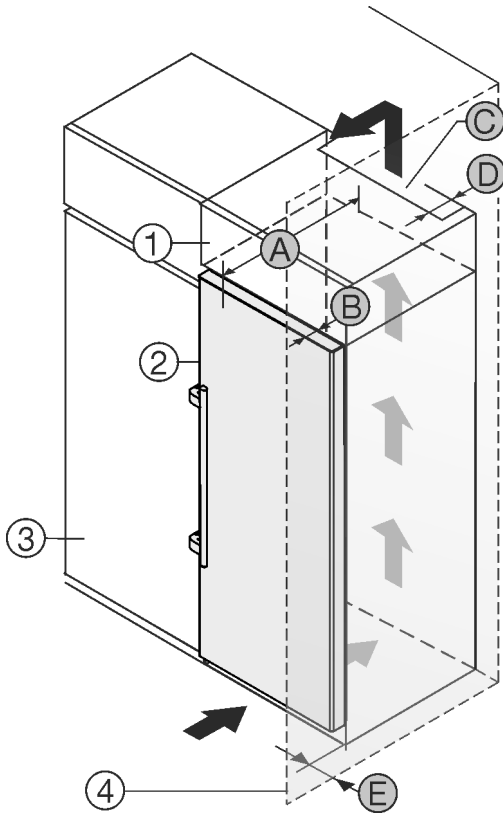

Fig. 2
- (1) Top cabinet \*
- (2) Appliance \*
- (3) Kitchen cabinet \*
- (4) Wall \*
- (A) Appliance depth \*
- (B) Door depth \*
- (C) Ventilation cross-section \*
- (D) Distance to the rear of the appliance \*
- (E) Distance to the side of the appliance \*
You can place the appliance directly beside the kitchen cabinet Fig. 2 (3).\*
There must be a ventilation shaft at the depth Fig. 2 (D) of the back of the top cupboard over the entire width of the top cupboard.\*
The cross section of the ventilation gap Fig. 2 (C) must be maintained below the ceiling.\*
If the appliance is set up with the hinges next to a wall Fig. 2 (4), the distance between the appliance and the wall must be at least 57 mm . This is how far the handle protrudes when the door is open.\*
In order to be able to fully open the door, the appliance must protrude by the depth of the door Fig. 2 (B) from the front of the kitchen cabinet. Regardless of the depth of the kitchen cabinets Fig. 2 (3) and use of wall spaces, the appliance can protrude further.\*